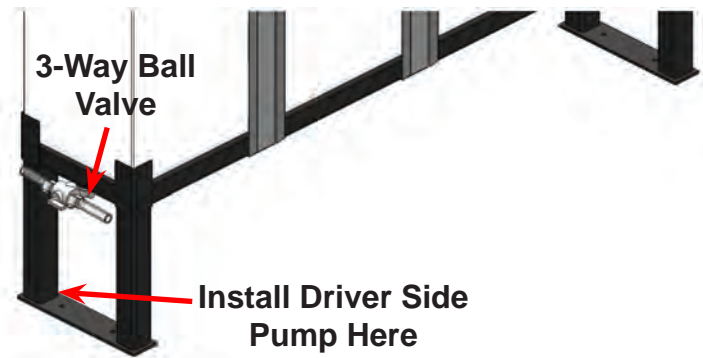

Figure 70. Install Pump at Rear of Van
1. On the driver's side of the van, position the driver side pump at the rear of the van, under the tank frame mounting bolts and washers, near the van wall as shown in Figure 70.